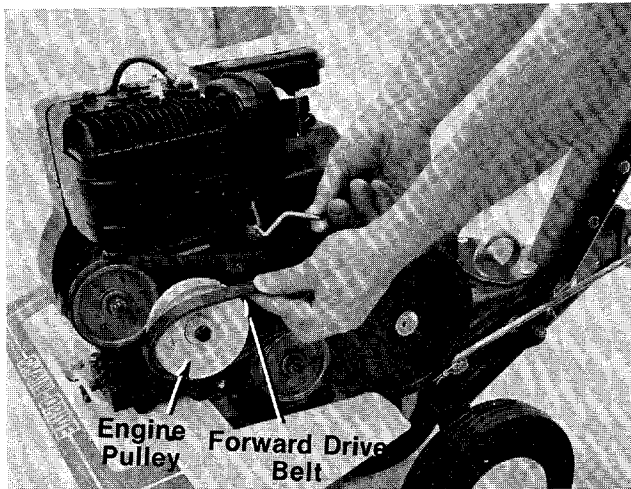

FIGURE 24.
4. Pull the shift lever back into reverse (R) position. Lift the forward drive belt off the engine pulley, flat idler and chain case pulley. See figure 24.